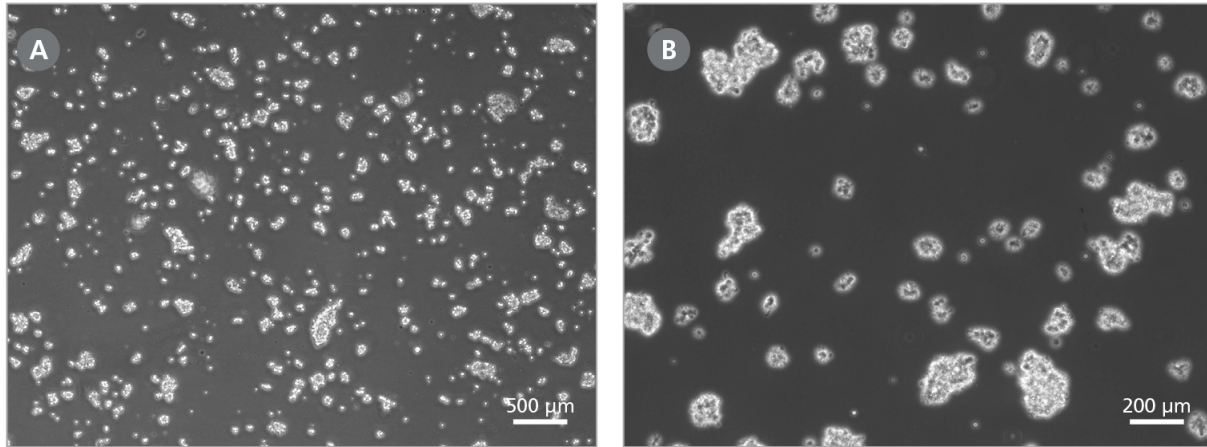

Figure 3. Aggregate Size of Human Pluripotent Stem Cells Following Passaging With ReLeSR™
Note: Optimal dissociation time may vary depending on the cell line used; when passaging a cell line with ReLeSR™ for the first time, the optimal dissociation time should be determined (for more information see Figure 3 and section 8.0).
8. Transfer the detached cell aggregates to a 15 mL conical tube (e.g. Catalog #38009) using a 5 mL serological pipette. Cell aggregates should be appropriately sized for plating (mean aggregate size of approximately 50 - 200 µm; see Figure 3).